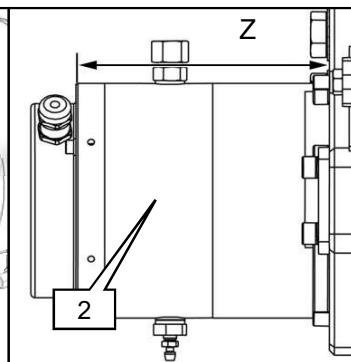

Fig. 24:
- Screw in cylinder unit (2) to control measurement $Z = 184 \text{ mm}$ (Fig. 24).
- Mount twist lock (2.18) – reposition cylinder unit (2) if necessary.